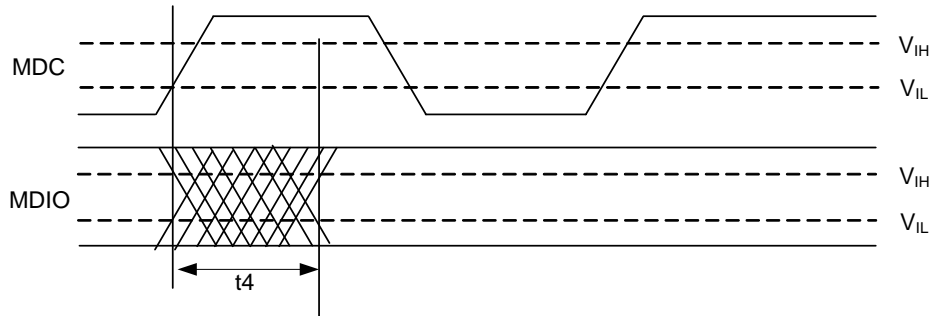

Figure 17. MDIO Sourced by RTL8218E (Slave)
- The timing characteristics t_4 (Figure 17) of the Slave (RTL8218E) are provided by the RTL8218E when the RTL8218E sources the MDIO signal (Read command)